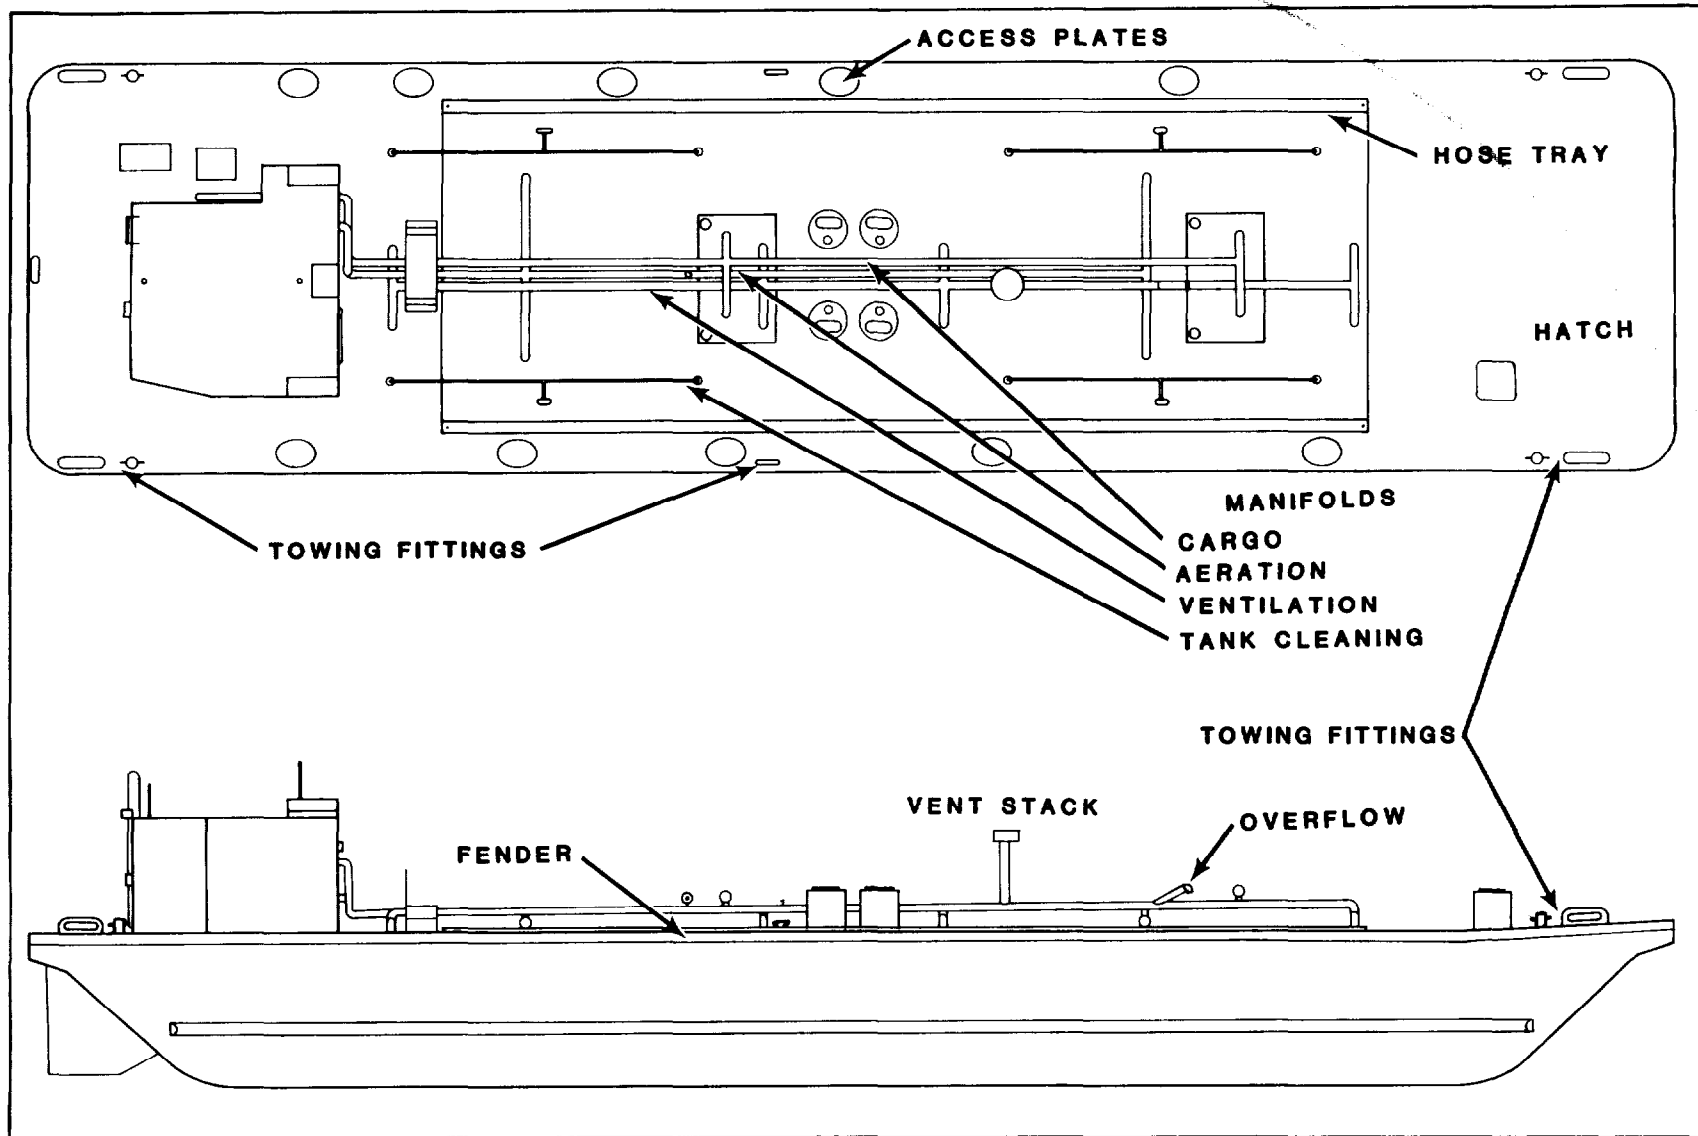
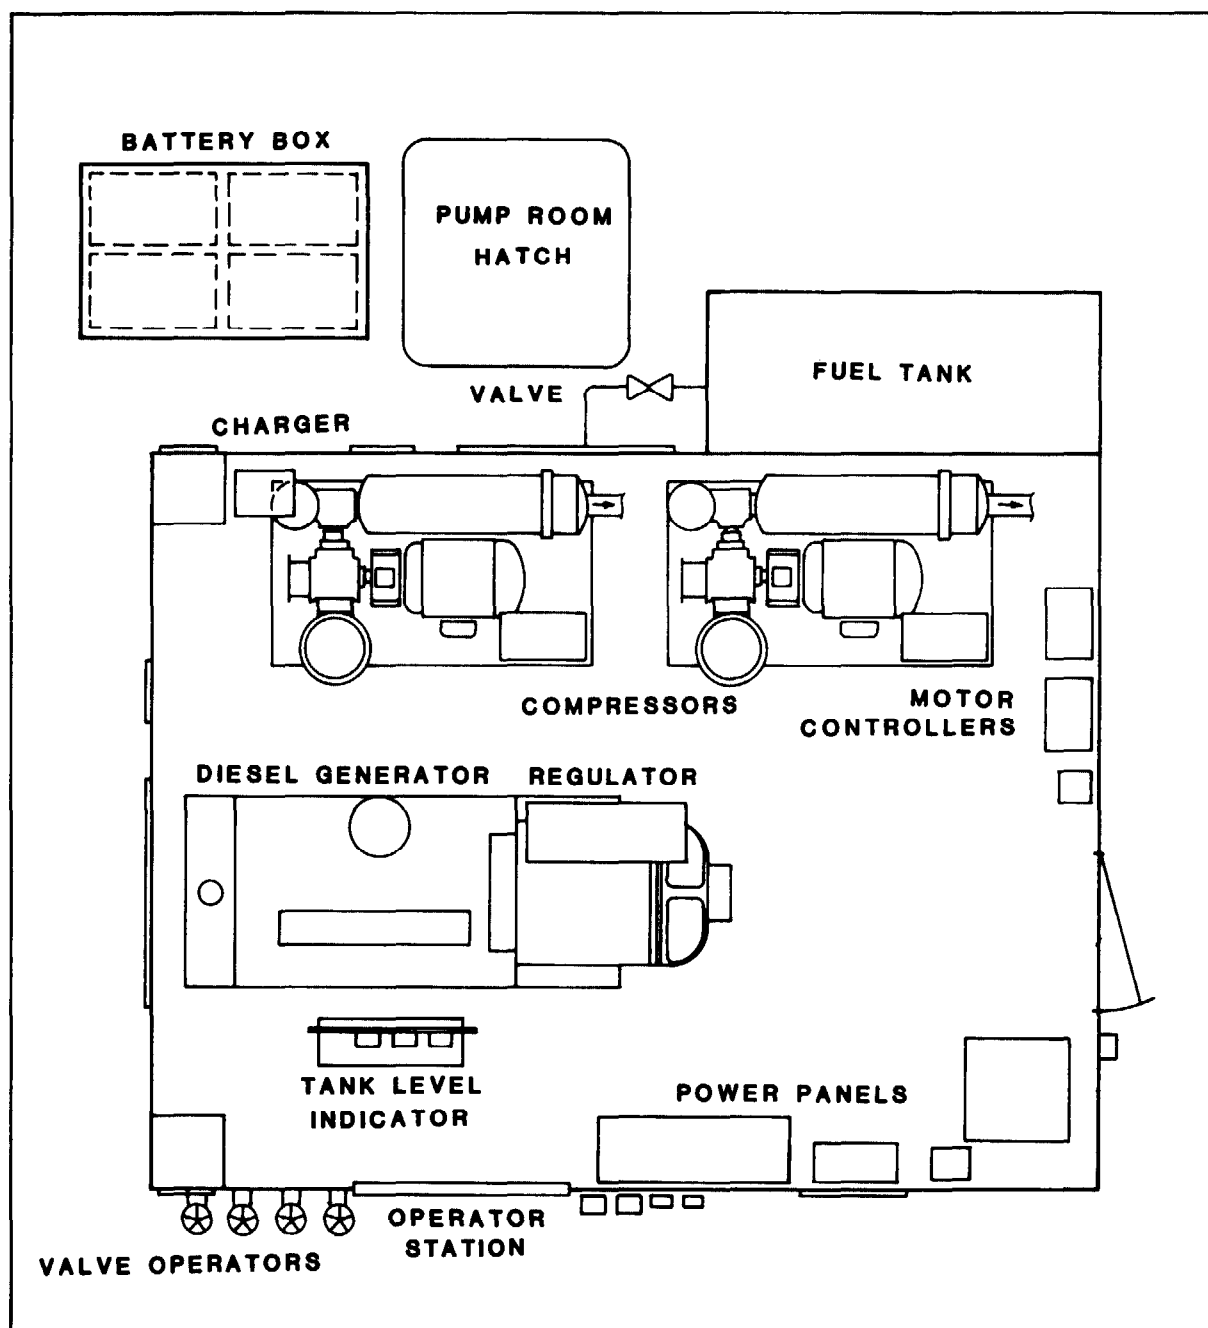

FIGURE 2-2
FIGURE 2-3
2.1.3 DECK AND MACHINERY LAYOUT. The arrangement of the Main Deck is shown in Figure 2-2. The Deck House is shown in Figure 2-3, which contains the diesel generator, machinery, and control equipment. Beside the Deck House is the Operator Station where
2.6.10 TOWING POINTS AND FITTINGS. The location of the towing fittings is shown in Figure 2-2. Each barge has been equipped with mooring lines. An integral rubber fender encircles the barge for normal barge operations alongside ships. Draft and towing marks are painted at each corner of the barge.